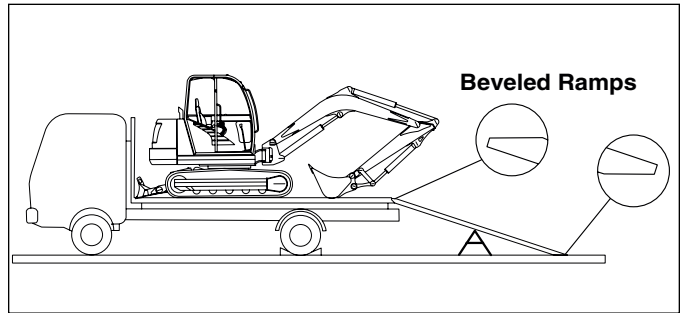

Figure 3-21. Transporting the Machine
Wheel chocks are stored in front of the left side steps. Use the wheel chocks to secure the wheels when parked on a slope or when transporting as shown in Figure 3-21.
NOTE: *The ends of the ramps should be beveled to prevent damage to the tires (Figure 3-21).*
- After the machine is on the transport machine, lower the dozer blade and the bucket onto the loading surface (Figure 3-21). Turn off the engine.